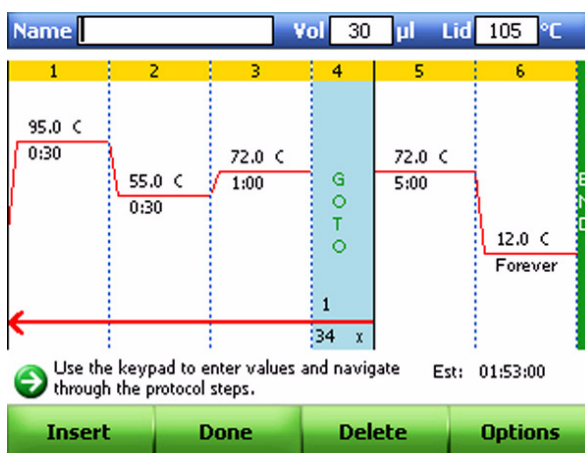

Figure 46. A protocol that includes a GOTO step 1 and 34 additional repeats.
- Select a **GOTO** step in the graphical or textual view of the protocol. Figure 46 shows an example where the step parameters include a **GOTO** step 1, and 34 additional repeats. Notice that the **GOTO** arrow points to step 1.